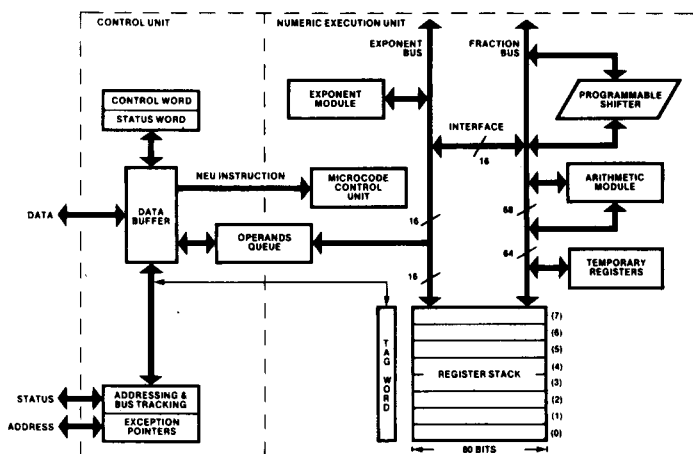

Figure 1. 8087 Block Diagram
As shown in Figure 1, the 8087 is internally divided into two processing elements, the control unit (CU) and the numeric execution unit (NEU). The NEU executes all numeric instructions, while the CU receives and decodes instructions, reads and writes memory operands and executes 8087 control instructions. The two elements are able to operate independently of one another, allowing the CU to maintain synchronization with the CPU while the NEU is busy processing a numeric instruction.